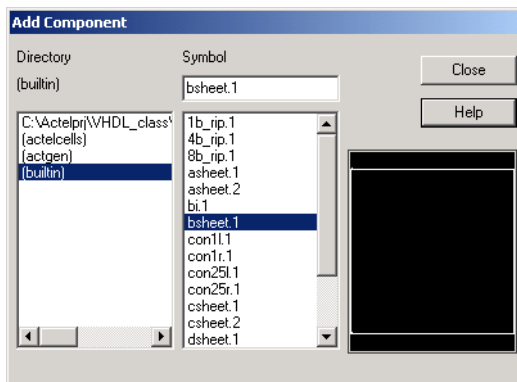

Figure 5-11. Selecting Sheet Size
1. **From the Add menu, click *Component*.** The Add Component dialog box appears, as shown in Figure 5-11.